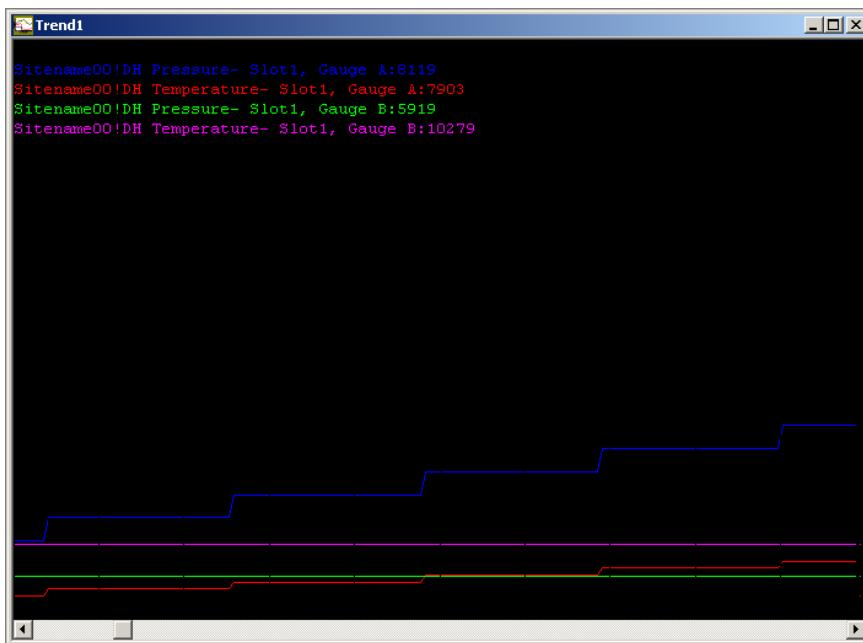

Figure 11-3: Live Trend Sample
- To start the live trending choose **Trend** menu **Run** command. The **Live Trend** window will start to populate with data as shown in Figure 11-3. The source for each trend line will be displayed in top-left corner of the window, as well as the current value and color legend for each measurement.
- To reconfigure the trend while running choose **Trend** menu **Configure** command, the reduced options configuration window appears, as shown in Figure 11-3.